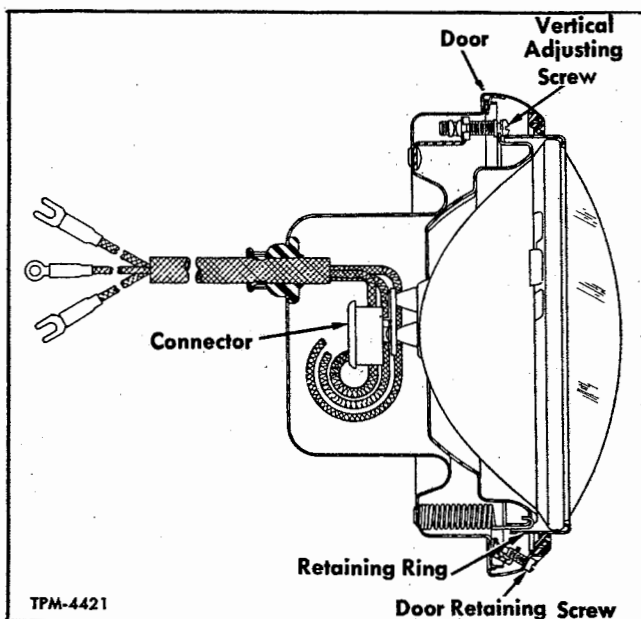

Figure 40—Headlight
Headlights (fig. 40) are double-filament, Sealed Beam type. The lens, reflector, and filament are a sealed unit and can be replaced only as such. If lens is cracked, filament burned out, or reflector damaged, the complete unit must be replaced.
Sealed-Beam Unit Replacement (Fig. 40)
4. Remove door retaining screw (fig. 40) and door for access to adjusting screws. Top screw provides vertical adjustment and side screw aims light horizontally.